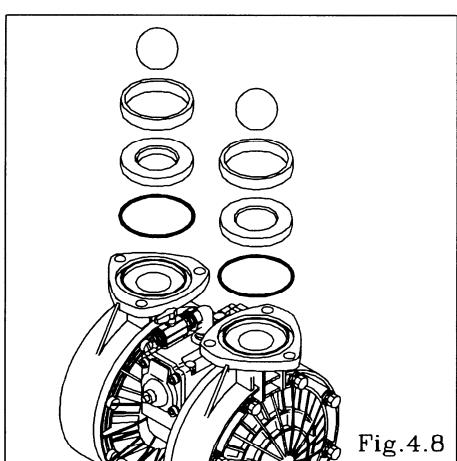

Fig.4.8
- Remove the ball, valve guide (only NDP-80), valve seat and O ring. [Fig.4.8]